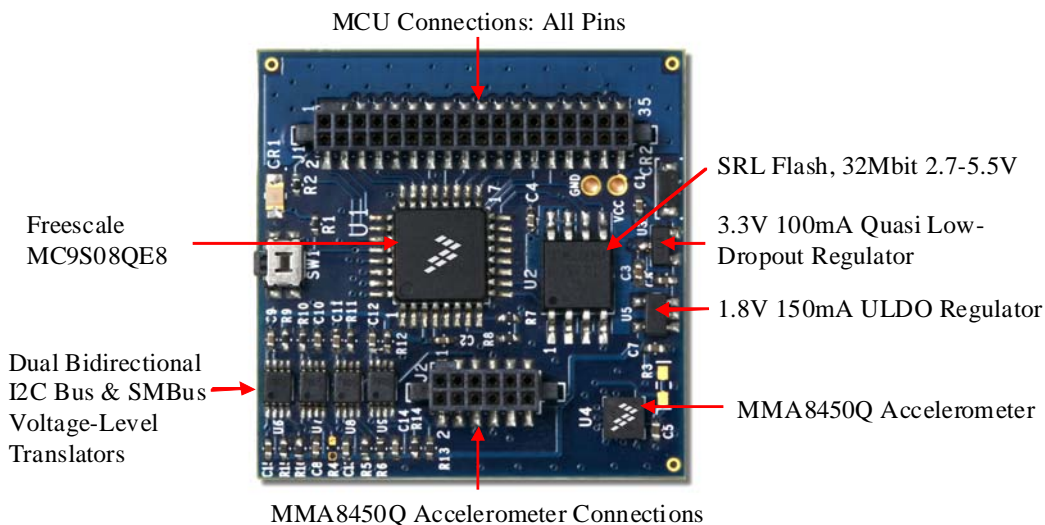

Figure 4. MMA8450Q Example Evaluation Board
The following are some important considerations for board layout of the MMA845xQ accelerometers to ensure the best performance. Level translators may be required only if the MCU/processor is operating at a higher voltage. Bypass capacitors are recommended on the input voltage pins to ensure a clean signal to the sensor for optimal noise performance. Figure 4 is an example of Freescale's MMA8450Q evaluation board. This is a four (4) layer board. The board was designed to be able to access every pin on both the MCU and on the accelerometer for quick debug. The board has 32Mbit Flash which can be used for data logging and to perform algorithm analysis. The board has an LED and a switch for general purpose functions and a resistor, "R3", that can be cut to measure current drain from the accelerometer. This board was designed as small as possible so that it would be non invasive when mounted on other boards for different applications. The board can plug into an interface board to the PC or to a battery board. The flat back of the board is great for mounting the board with the battery pack onto moving objects to log data. The flat back also allows the board to be easily mounted into other designs. All the accelerometer pins are accessible through the board, bypassing the MC9S08QE8 microcontroller, if another external processor/MCU will be used.
As shown from the MMA8450Q Evaluation board in Figure 4, level translators are required because the MCU is operating at 3.3 V and the operating voltage of the MMA8450Q is limited to 1.8 V. The SCL, SDA, SA0, EN, INT1 and INT2 signals will shift through the level translator when communicating back and forth to the MCU. Level translators on this board are not required for the other family members of the MMA845xQ (MMA8451, 2, 3Q) since the operating voltage can be regulated at 3.3 V which matches the voltage of the MCU on this board.